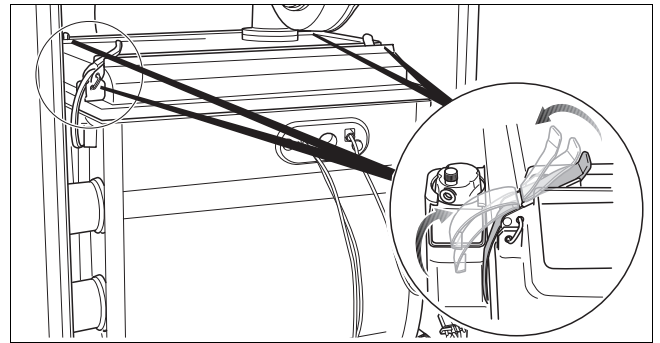

fig. 6 Opening the retaining clips
- Loosen both retaining clips on the burner cover (fig. 6).